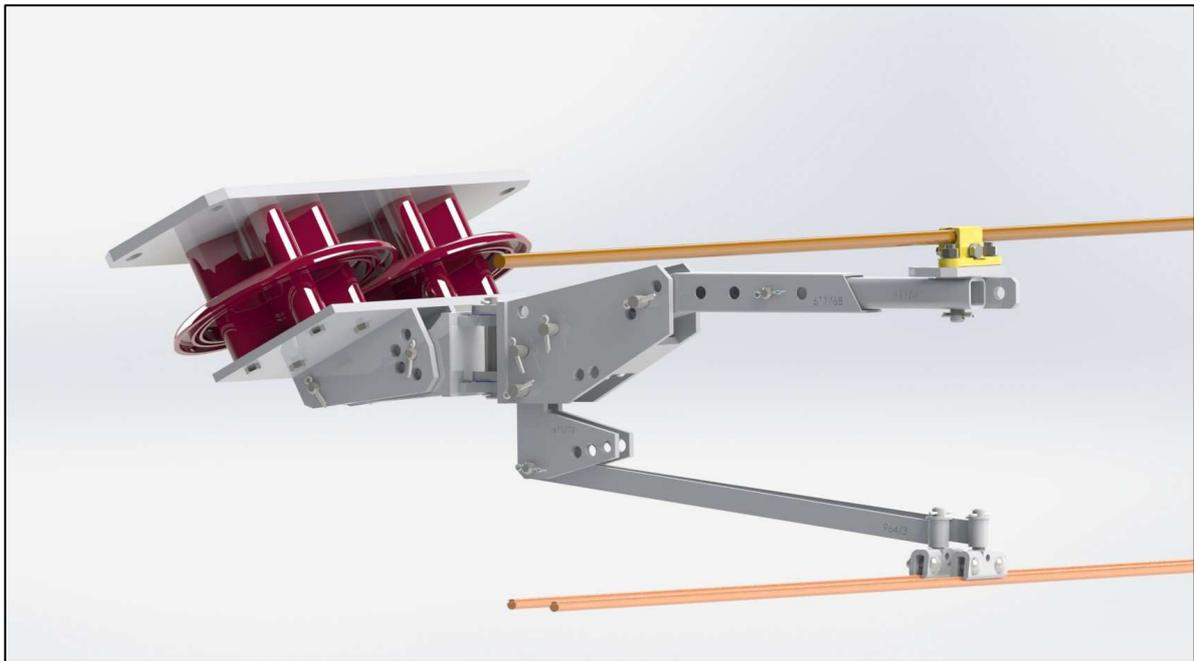

Figure 3 - CAD View of Mark-3 Tunnel Cantilever with Heel Adjuster
- If necessary, a "Heel Adjuster" can be added to the main frame to lower the connection of the pull-off arms to gain a lower Heel height or allow for a greater System Depth (vertical distance from Catenary to Contact). See *Figure 3*.